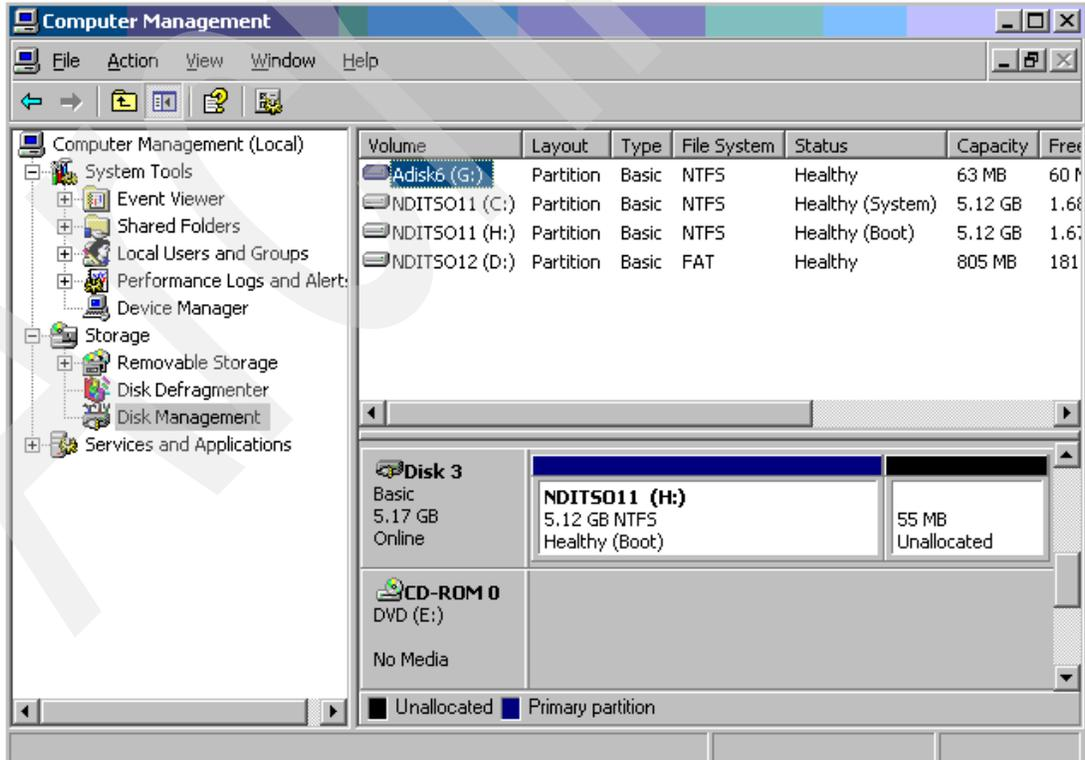

Figure 6-101 Disk Management within Windows Server 2003
8. On Windows Server 2003, the diskpart utility should be done to get the expanded disk space added to the current disk space of the Disk drive. In Windows Server 2003 disk management, you notice that the added disk space is not yet part of the current disk space (Figure 6-101).